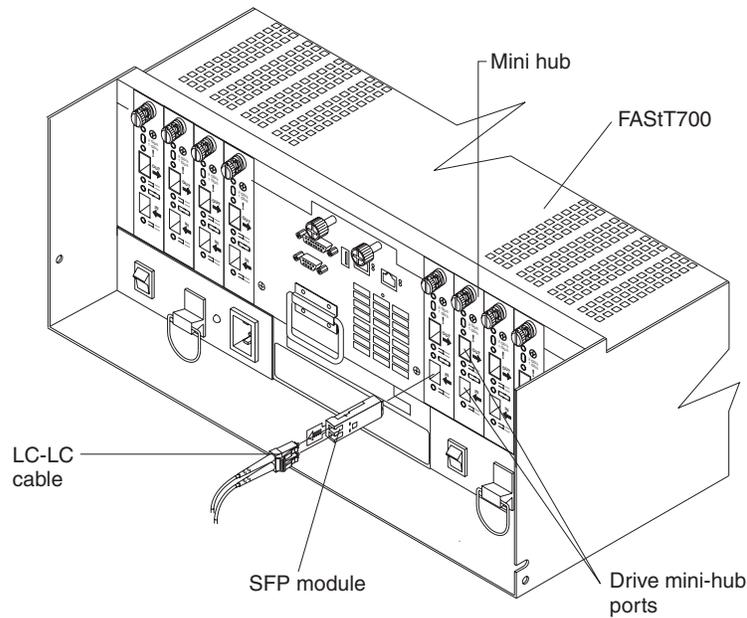

Figure 32. Installing an SFP module and LC-LC cable in a FAST700
2. Connect an LC-LC fiber-optic cable into the SFP module, as shown in Figure 32 on page 33.